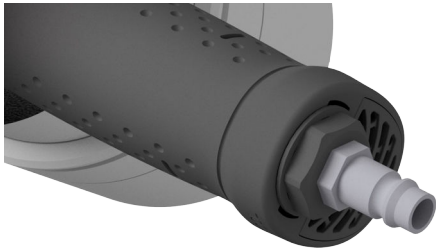

Fig. 15: Compressed air port
1. ➤ Clean the compressed air port (Fig. 15).